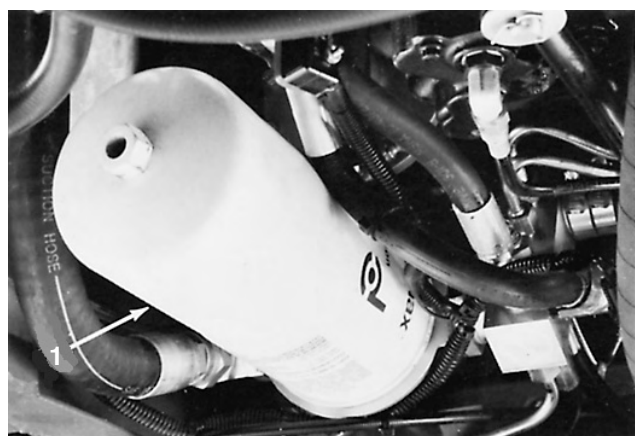

Figure 51
1. Place drain pan under filter and remove filter (Fig. 51).